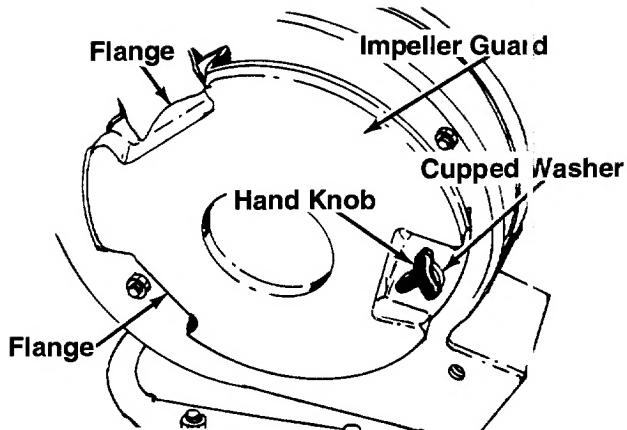

FIGURE 13.
4. Lift up and out on the housing and rotate it 105° clockwise. Chute opening should be to the right hand side when viewed from the front of unit. See figure 13.
5. Place the impeller guard into flanges on front of housing. Line up hole in guard with hole on housing. Secure with one hand knob and cupped washer (cuffed side of washer against the impeller guard). See figure 13.